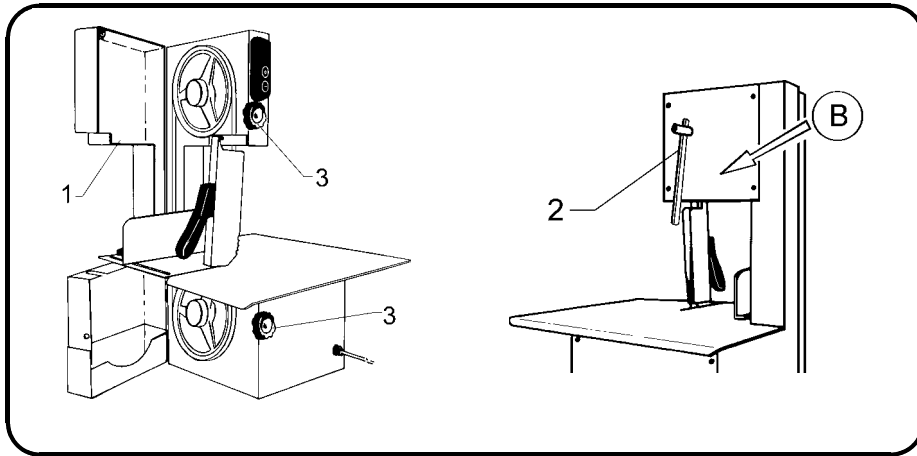

Fig. 7.6.2
- Release knob “2” as indicated in fig. 7.6.2 arrow “B”.